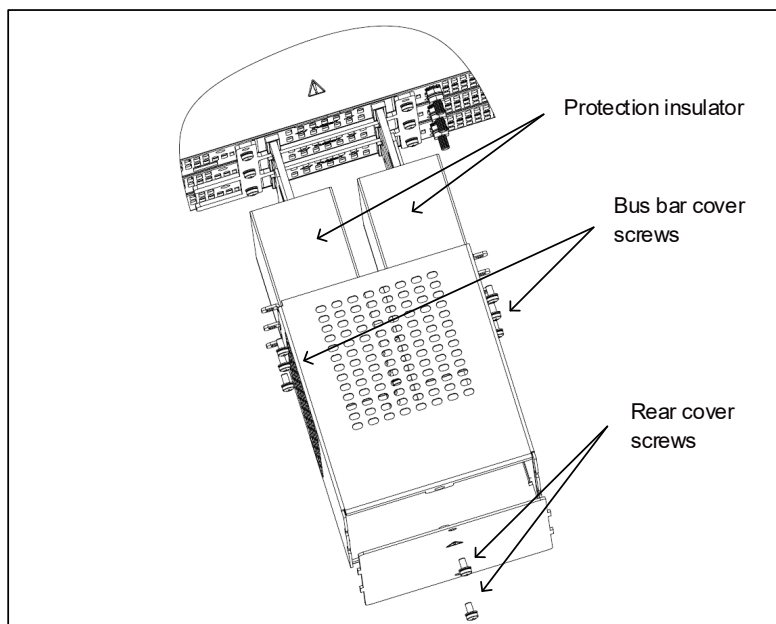

Figure 4-20: Disassembly of Output Protection
1. Open the output protection assembly by unscrewing bus bar cover and rear cover screws as shown in Figure 4-20 (15kW is shown, it applies to 10kW as well. For 10kW, there are 4 Bus bar cover screws only).
2. Disassemble Protection insulator as shown in Figure 4-20 (15kW is shown, it applies to 10kW as well).